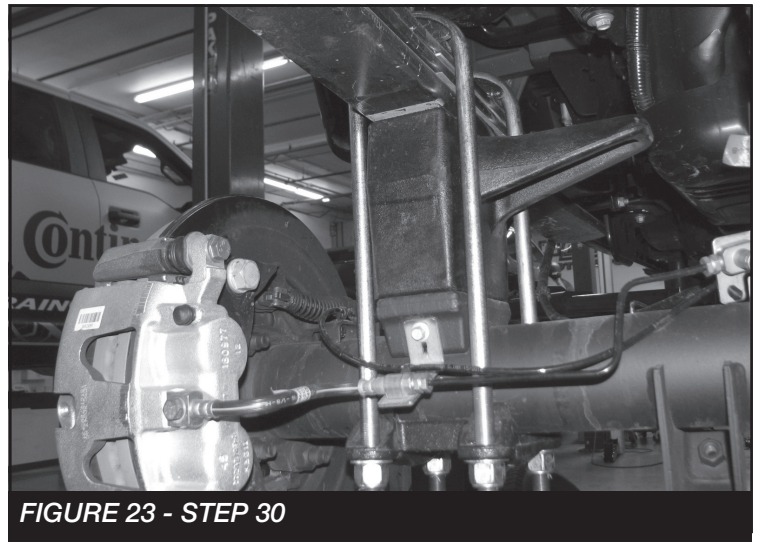

FIGURE 23 - STEP 30
30. With the rear axle supported, remove the rear factory shocks, ubolts and blocks. Install the rear lift blocks FTBK64D & P. The new blocks have an indicator on which direction to be installed. Install the supplied u-bolts, nuts and washers align axle, lift blocks and springs and torque to U-Bolts to 170 ft-lbs. **SEE FIGURE 23**